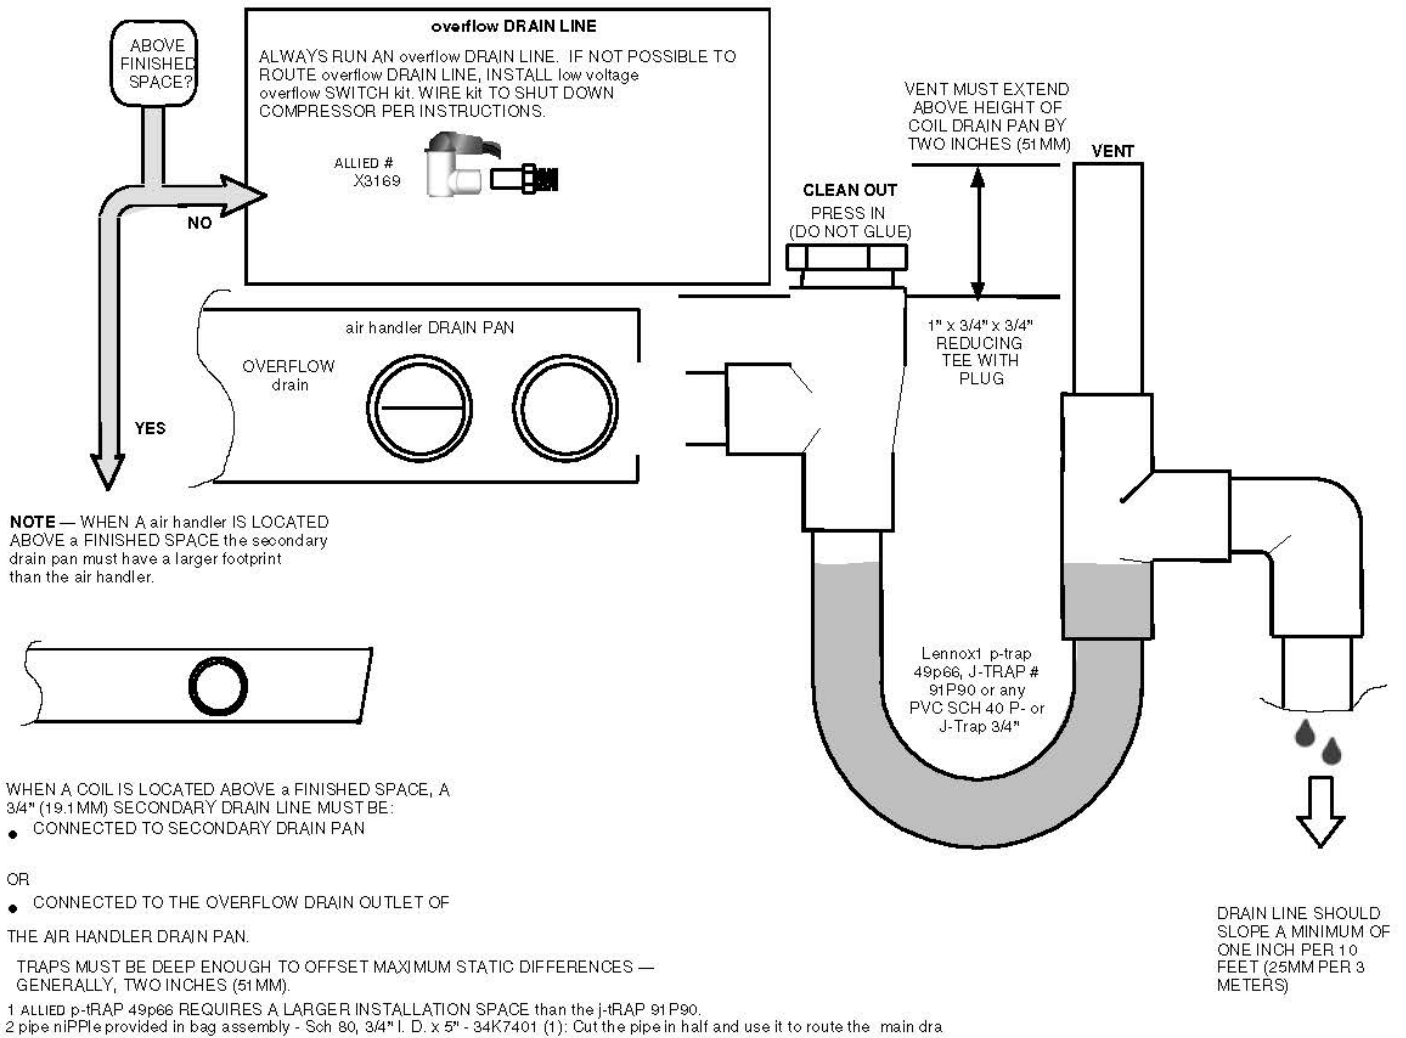

Figure 9
7. Install a 2" trap in the primary drain lines as close to the unit as practical (see figure 9). Make sure the top of the trap is below the connection to the drain pan to allow complete drainage of the pan.
NOTE: Horizontal runs must have an anti-siphon air vent (standpipe) installed ahead of the horizontal run (See Figure 9). An extremely long horizontal run may require an oversized drain line to eliminate air trapping.